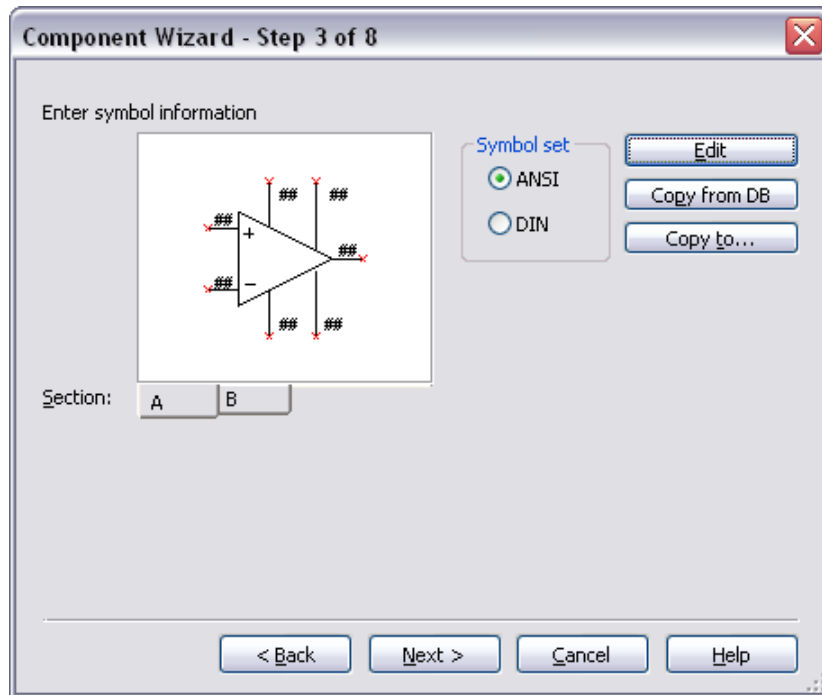

Figure 6. Pre-amplifier symbol.
3. Select **File»Exit** to close the **Symbol Editor**, if asked to save changes choose **Yes**. The pre-amplifier symbol will now be displayed in the preview box (Figure 6).